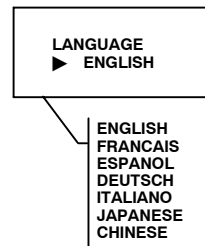

Figure 3-2. Accessing the Language Screen
The instrument can be configured to display any of seven different languages including English, French, German, Italian, Spanish, Chinese and Japanese (see figure 3-2). To access the language selection screen, press the four arrow keys simultaneously for three (3) seconds.